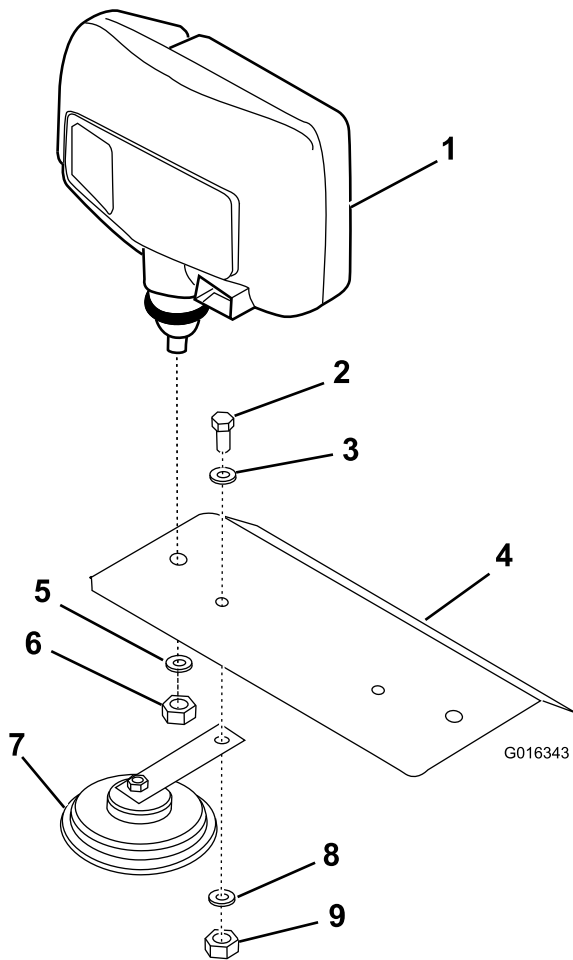

Figure 8
7. Secure the horn and the left-hand headlamp to the left-hand light bracket with a hex-head bolt, 2 washers (M8-20), and a locknut (M8) (Figure 8).